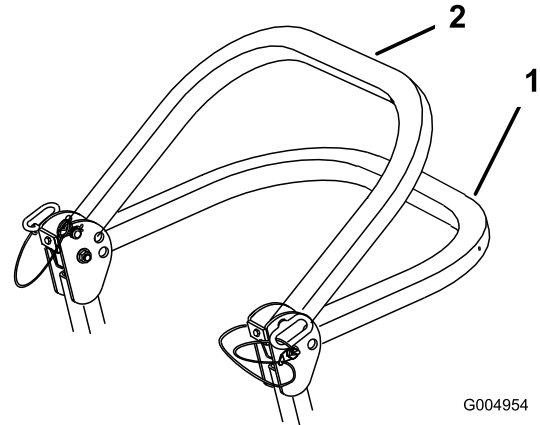

Figure 8
2. Lower the roll bar to the down position. There are two down positions. See Figure 8 for the positions.